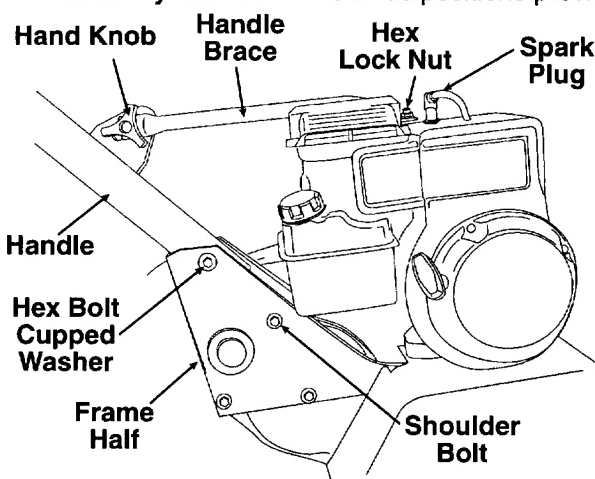

FIGURE 2.
1. Remove the hex bolt and cupped washer from the top right side of the frame halves. Hold the cable guide bracket on the left side of the frame as it will fall when the bolt is removed. (See Figure 2)
5. Remove the hex lock nut from on top of the engine, just behind the spark plug. Attach the curved end of the handle brace to the top of the engine, using hex lock nut just removed. Tighten securely. (See Figure 2)